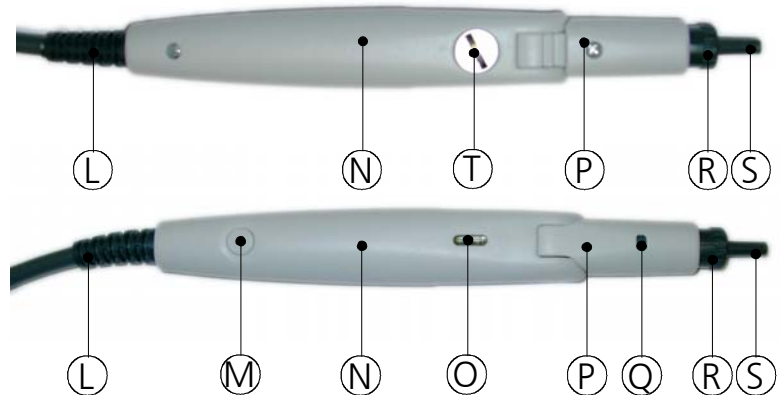

Figure 8
The probe of the **MI 34** is shown in figure 8. The probe head is adjustable to three angles (0°, 60° and 80°). It is adjusted by turning the locking screw (T) at the bottom of the probe using a coin or a screw driver. Adjust the probe head (P) by pulling it into the required position until it rests. After it is set to the required position tighten the fixation screw again.